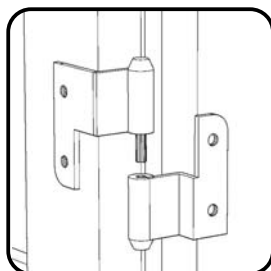

Figure 6
Attach Doors (M) and (N) by sliding door lift hinges into side panel lift hinges. (See Figure 6)